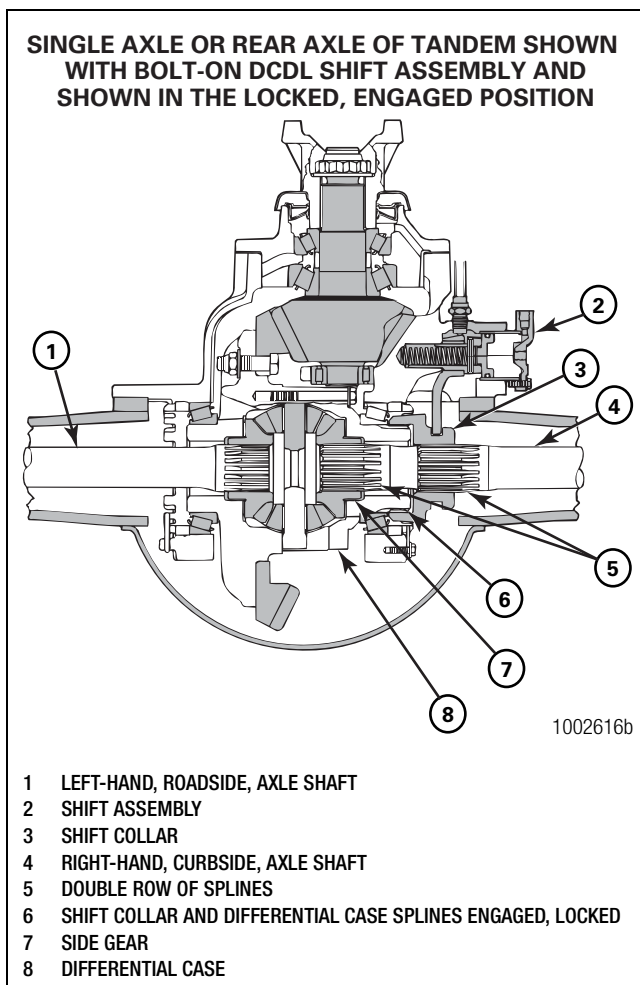

Figure 11.5
- NOTE:** When the shift collar is completely engaged with the splines of the main differential case, the differential is locked and the driveline cannot be rotated. Figure 11.5.
NOTE: Install only the axle shaft(s) shown in Table AM at this time. These axle shafts have a double row of splines that engage with the splines of the side gear and shift collar in the main differential. Figure 11.5.